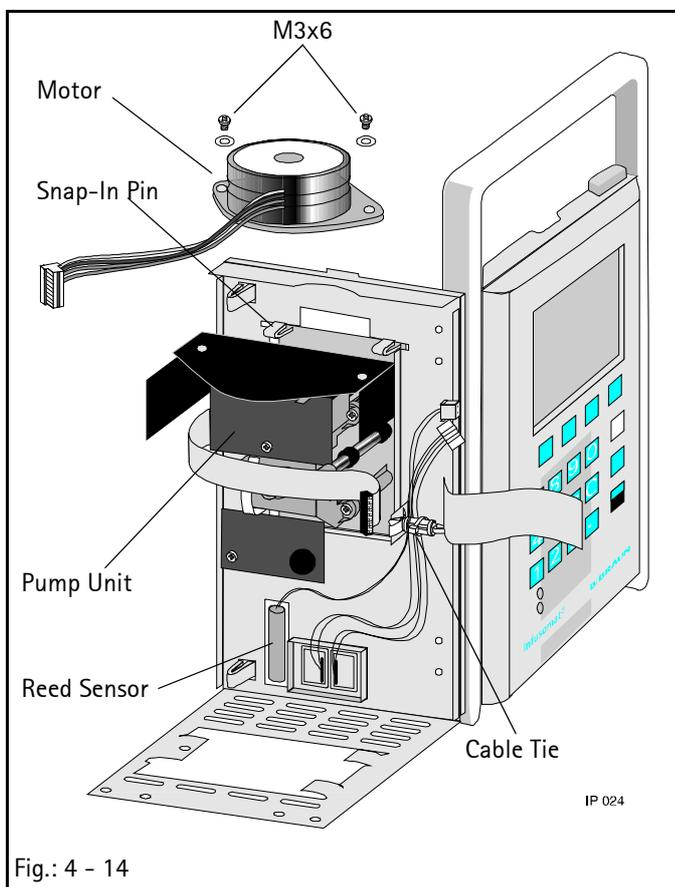

Fig.: 4 - 14
6. Press reed sensor out of the holder on the rear side, see Fig.: 4 - 14.